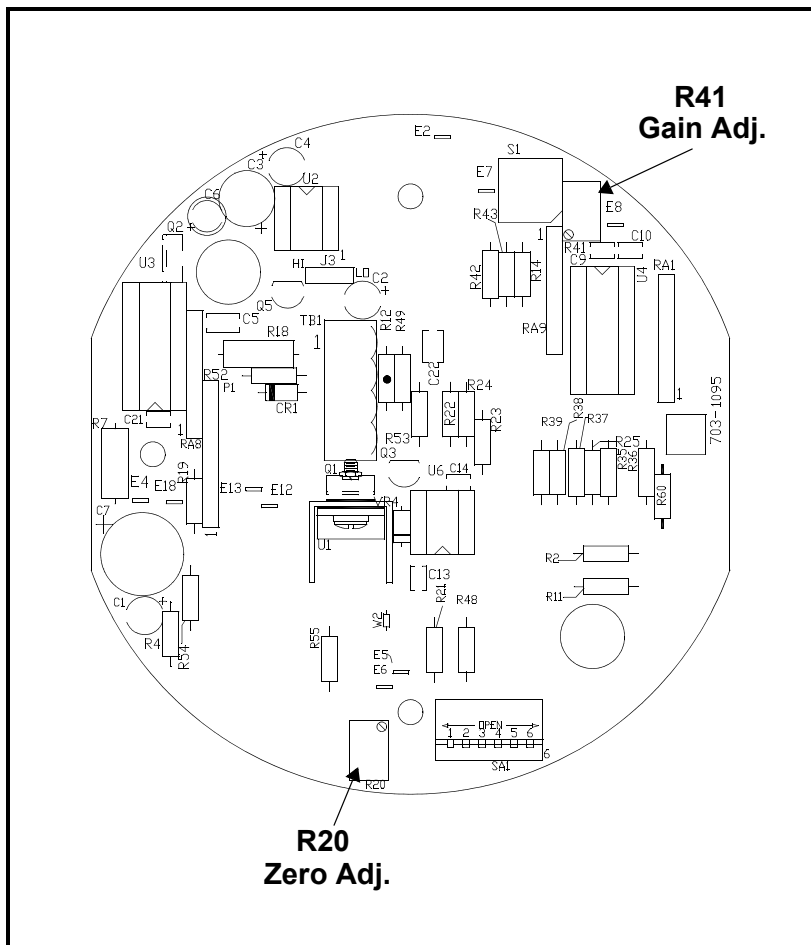

Figure 5-2: PCB 703-1095 Calibration Potentiometer Locations
- You will see the TMO2-TC PCB #703-1095 located directly below the cover. Locate the adjustment pots R20 (Zero Adjustment) and R41 (Gain Adjustment) using Figure 5-2 below as a guide.